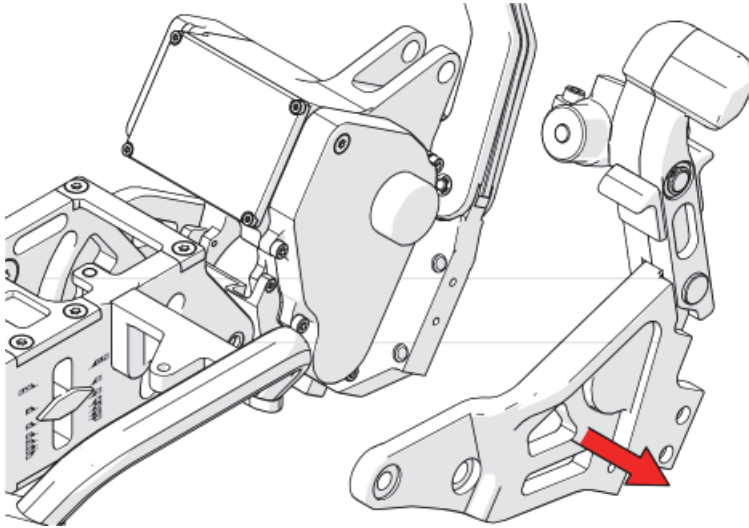

Figure 2-30 Remove the motor carriage arm
10. Remove the motor carriage arm and attached motor engage lever (see Figure 2-30 on page 104).